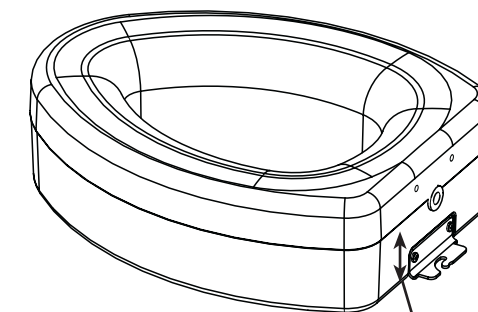

Figure 2 Adjust for proper fit
3. Adjust the receiver bracket using a #2 Phillips head screwdriver so that the underside of the bracket makes contact and sits flush to the porcelain rim (see Figure 2).